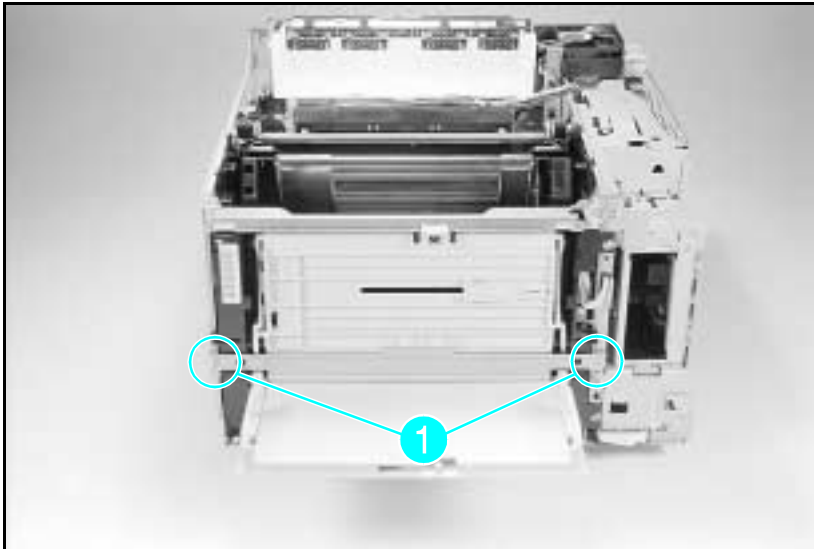

Figure 6-11 **Remove the Crossmember Bracket**
- 3** Remove the (2) screws in the Cross-member Bracket as shown in Figure 6-11, callout 1. Remove the Cross-member Bracket.
- 2** Remove the MP Tray (Tray 1) door, the Front Cross-member (Figure 6-11), and the MP Tray.